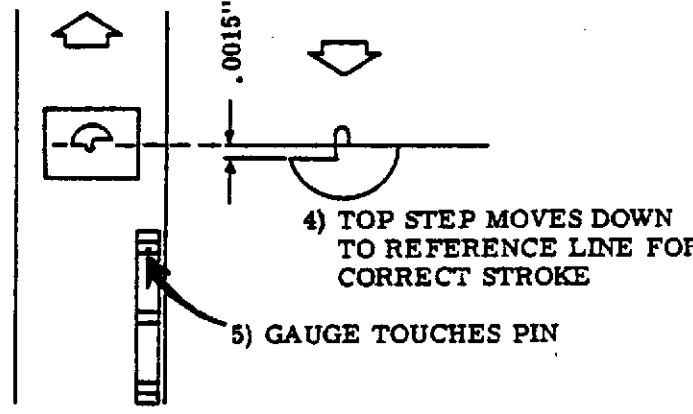

Figure 3-80. CLAW PULL DOWN STROKE
j. Pull up on the Gauge. The projected Target will move down. The upper Target step must touch the reference line drawn in Step 8 for correct stroke (Figure 3-80).